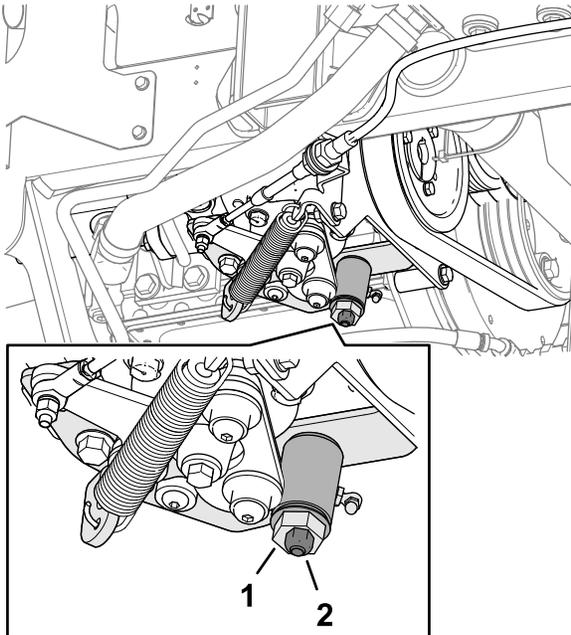

Figure 76
3. Loosen the locknut on the traction adjustment cam (Figure 76).